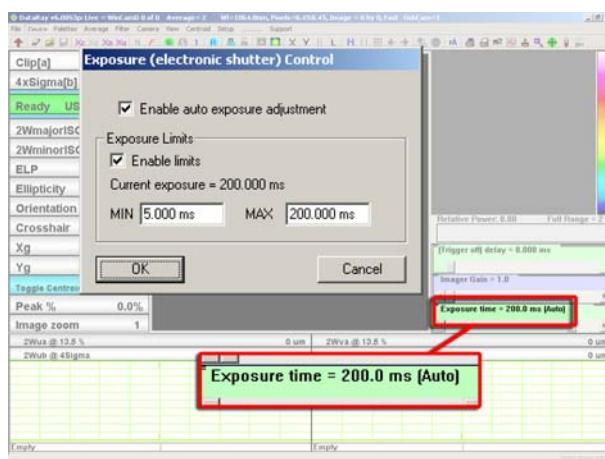

Figure 6.9 WinCam settings (4)
- Using the right-hand mouse button, click on "Exposure time" and, in the pop-up that opens, set the limits for the exposure time according to Figure 6.9.